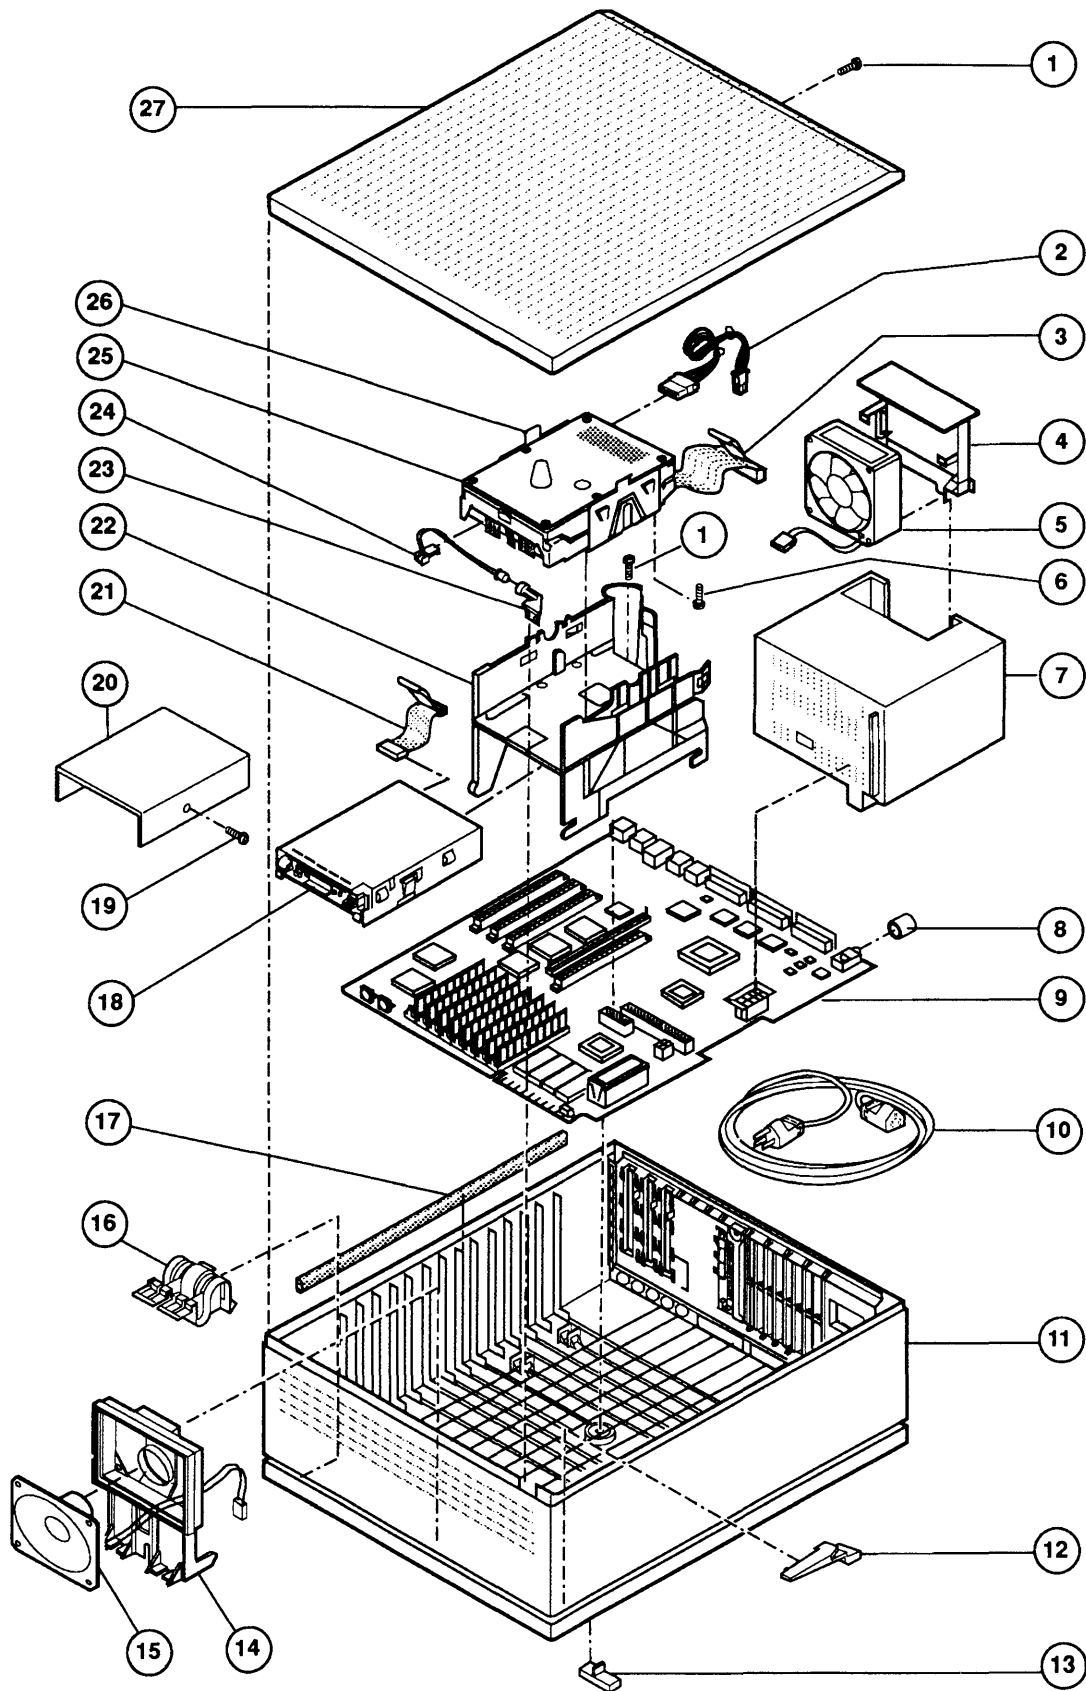

Figure 2 Macintosh IIcx – Exploded View
IPL.5	Macintosh IIci – Exploded View (Figure 2)
□ MACINTOSH IIci – EXPLODED VIEW (Figure 2)